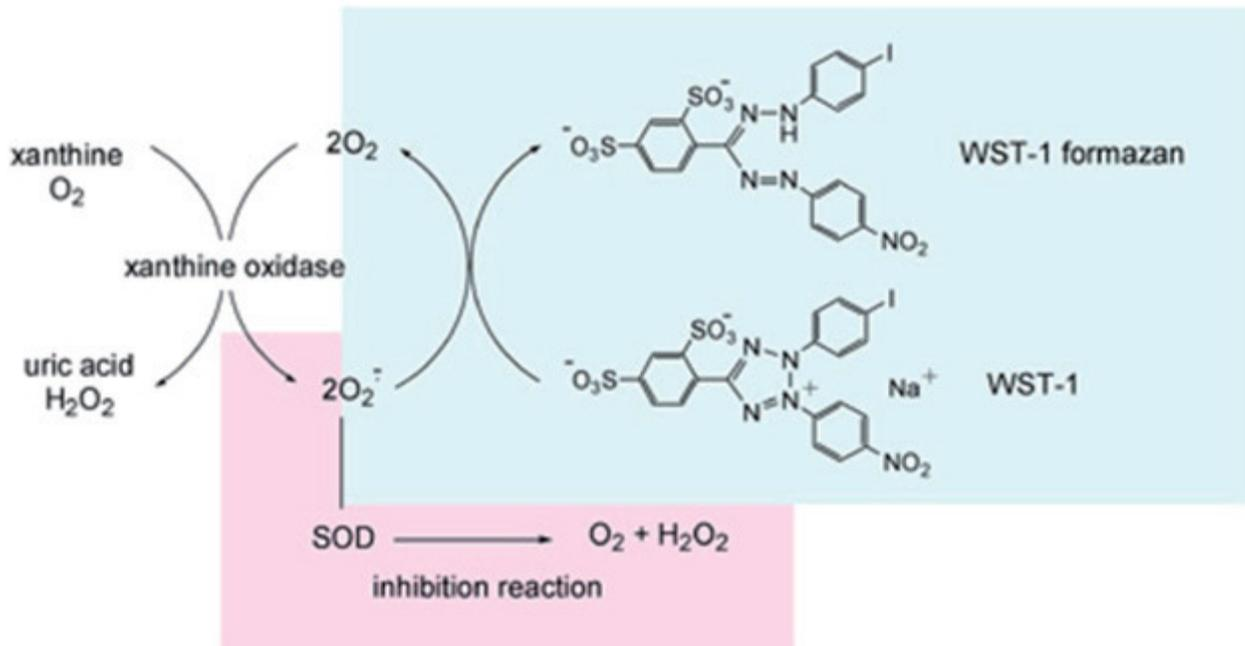

Fig. 1 Principle of the determination of SOD activity using SOD Assay Kit.
Superoxide Dismutase (SOD), which catalyzes the dismutation of the superoxide anion (O_2^-) into hydrogen peroxide and molecular oxygen, is one of the most important antioxidative enzymes. In order to determine the SOD activity, several direct and indirect methods have been developed. Among these methods, an indirect method using nitroblue tetrazolium (NBT) is commonly used due to its convenience and ease of use. However, there are several disadvantages to the NBT method, such as poor water solubility of the formazan dye and the interaction with the reduced form of xanthine oxidase. The **K-ASSAY®** SOD Assay allows very convenient SOD assaying by utilizing **KAMIYA BIOMEDICAL COMPANY's** highly water-soluble tetrazolium salt, WST-1 (2-(4-Iodophenyl)-3-(4-nitrophenyl)-5-(2,4-disulfophenyl)-2H-tetrazolium, monosodium salt) that produces a water-soluble formazan dye upon reduction with a superoxide anion. The rate of the reduction with O_2^- are linearly related to the xanthine oxidase (XO) activity, and is inhibited by SOD, as shown in Figure 1. Therefore, the IC_{50} (50% inhibition activity of SOD or SOD-like materials) can be determined by a colorimetric method.